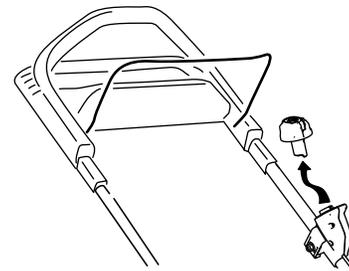

Figure 19
1. Remove the electric-start button (Figure 19).